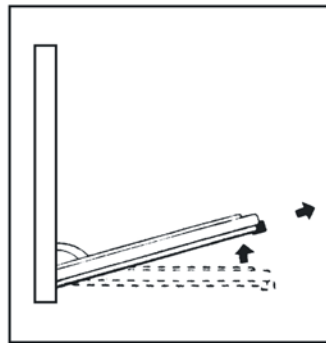

Fig.11-2
- Shut the door slightly, and lift it out by pulling out the hooks "A" as shown in figure 11.2.